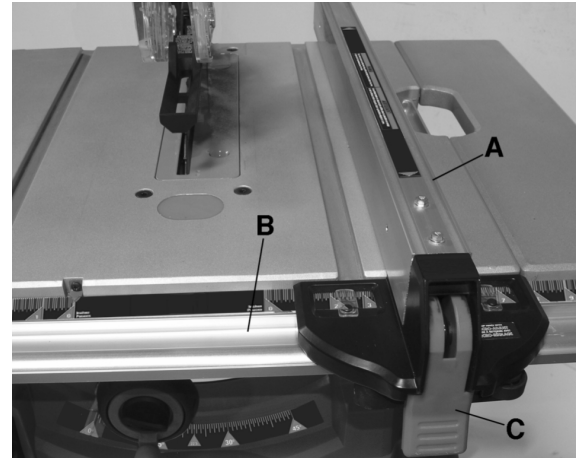
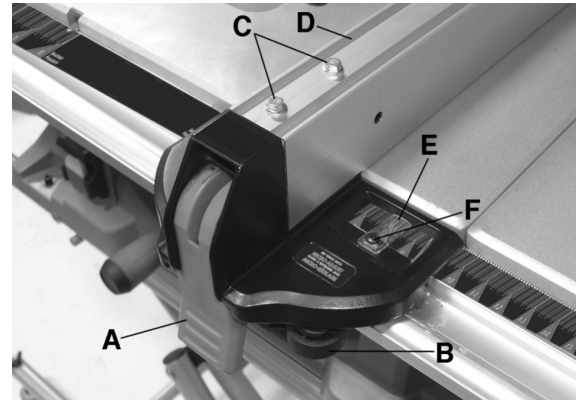

Fig. 12
Fig. 13
1. Position the front of the rip fence (A, Fig 12) on the front rail (B, Fig 12). Lower the back end of the rip fence on the rear rail. Check to make sure the rip fence slides freely on the rails.
2. Lower rip fence locking lever (C, Fig 12) to automatically align and secure the rip fence in place.
3. This rip fence comes with an adjustment wheel (B, Fig 13) which allows the user to make small adjustments of the rip fence using only one hand. The rip fence lock lever (C, Fig 12) must be raised to the unlocked position to use this feature.
REDUCING THE RISK OF KICKBACK (FIG 13)